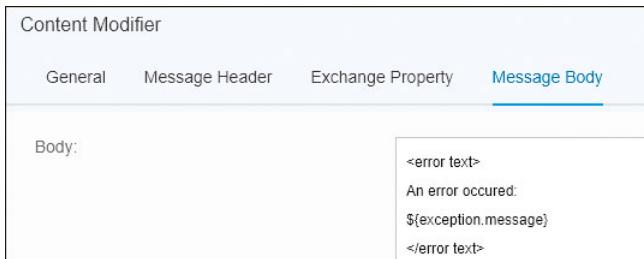

Figure 6.46 Error Message Configured in the Content Modifier in the Exception Subprocess
4. In this step, we define how to handle error situations. To do that, in the **Message Body** tab, specify the setting shown in Figure 6.46.